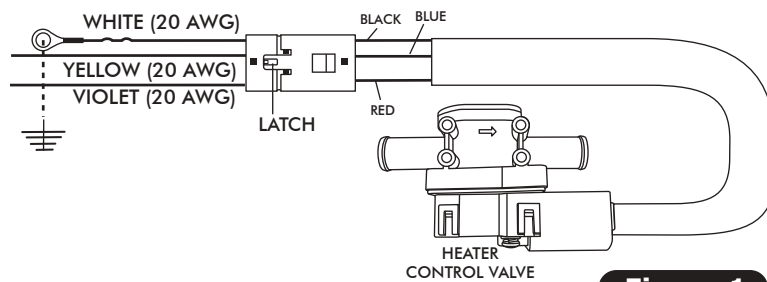

Figure 1
1. Select a suitable ground location for the white ground wire eyelet from the heater control valve harness (See Figure 1, below) and secure it using a #12 x 1/2" self-tapping screw.
6. Connect the violet/yellow/white twisted branch with 3-position connector into the heater control valve connector (See Figure 1, below). Ensure that the mating latch is fully seated.